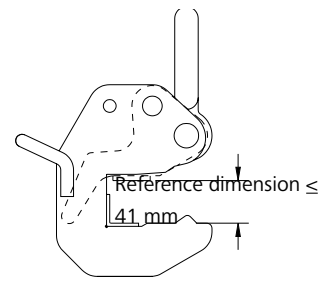

Fig. 36.2
1. Open the safety lever as far as possible (Fig. 36.2).
If the reference dimension exceeds 41 mm, the crane hook must be replaced immediately. This also applies if only one side of the hook exceeds this dimension (Fig. 36.2).